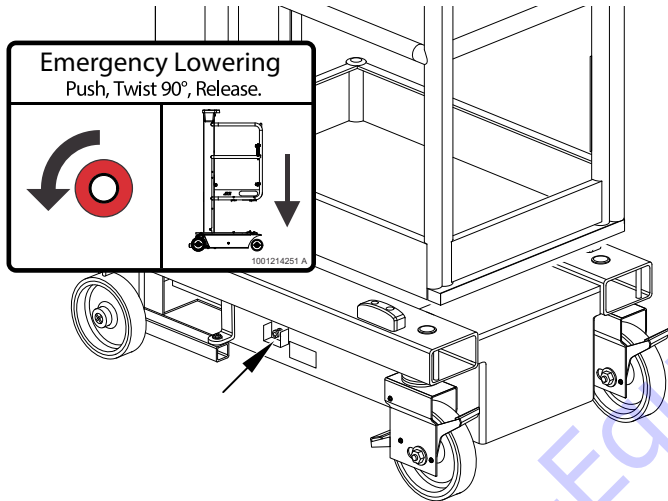

Figure 4-1. Emergency Lowering
1. Locate emergency lowering valve on the frame on the right side of machine (see Figure 4-1.). To open valve, push red knob in and turn 90° counter-clockwise and release, platform will start to lower. Once platform is lowered to desired height, push in and turn knob clockwise and release to close valve.